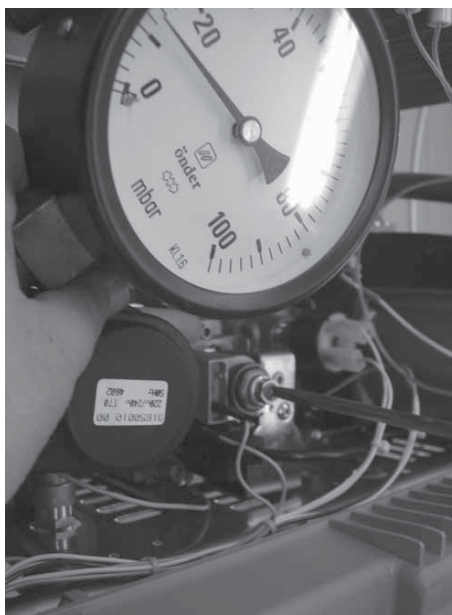

Figure 44
- ❑ Turn inner part by a plain screwdriver, **clockwise**: to increase the pressure setting, **anticlockwise**: to decrease the pressure setting. (*figure 44*)